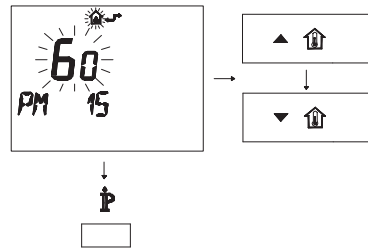

Fig. 7.17
- Modify the programmed SET by acting on buttons \blacktriangle \uparrow or \blacktriangledown \uparrow until a **setting of 60** is displayed, wait for the number programmed to flash (Fig. 7.17).